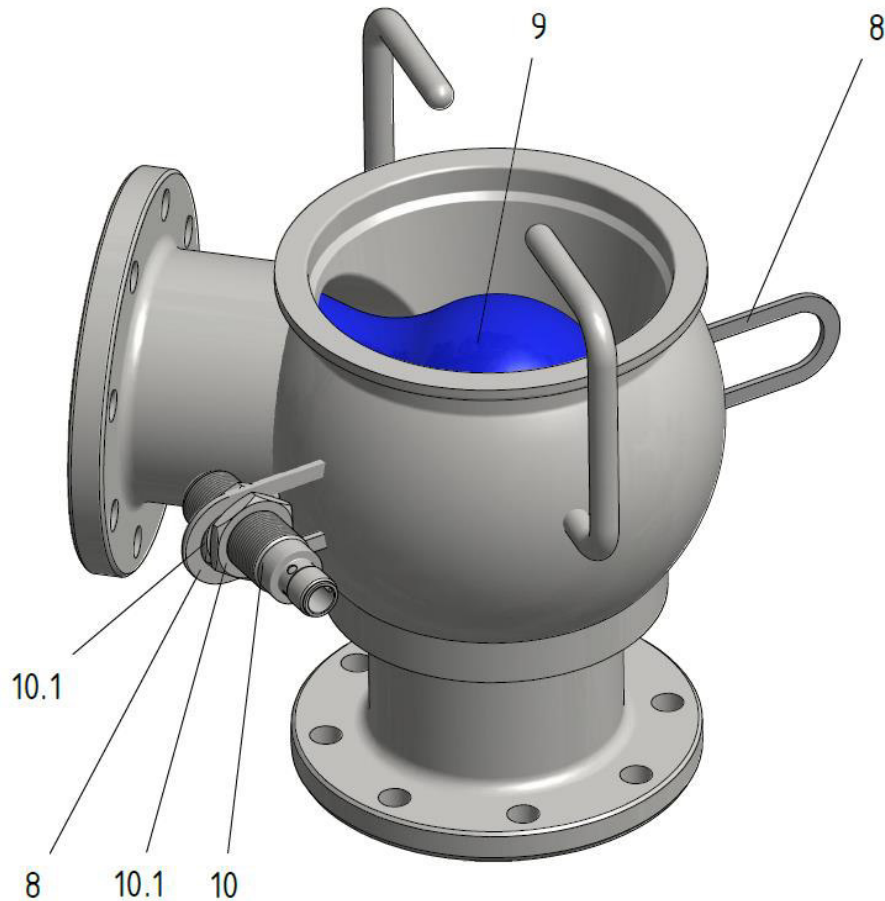

Fig. 6-2: Pigging station with pig detection
- Insert a pig (Fig. 6-2, Item 9) into the pigging station.
- Remove one of the two fastening nuts (Fig. 6-2, Item 10.1)
- Insert the sensor (Fig. 6-2, Item 10) through the holding plate (Fig. 6-2, Item 8)
- Fasten the sensor (Fig. 6-2, Item 10) through the previously removed fastening nut (Fig. 6-2, Item 10.1).
- Use axial and radial shifting of the sensor (Fig. 6-2, Item 10) to set up the largest possible sensor coverage area.
- Secure the sensor (Fig. 6-2, Item 10) using firm tightening of the fastening nuts (Fig. 6-2, Item 10.1)